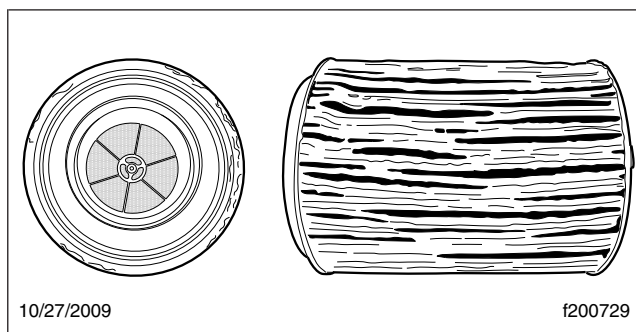

Fig. 1, Filter With Gel Only (gel may be clear or have a slight green tint)
3. If there is a visible gel built up on the filter, replace the filter (use a plain filter p/n DDE A4722030255 or a need release filter p/n DDE A4712030155), add a pint of Powercool 3000 System Aftertreatment (p/n PIC 23507854). Top off the coolant in the system, and release the vehicle back to the customer. See Fig. 1. Make sure that the under side of the filter has no white residue.